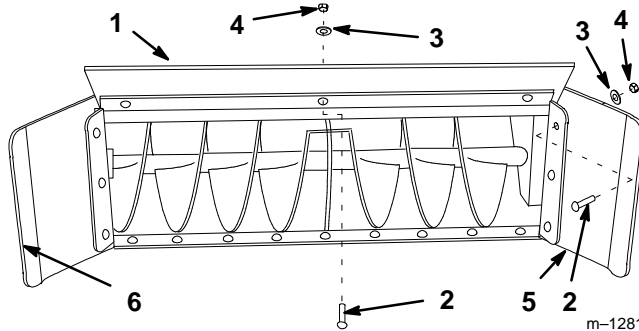

Figure 2
1. Position the top plate outside the top flange of the housing. Secure with (3) 3/8 x 1" (25 mm) carriage bolts (heads on the inside) (3) 3/8" washers (10 mm) and (3) 3/8" locknuts (Fig. 2).
2. Position the side plates outside the housing side flanges, with the cutting edges parallel to the side of the housing, and secure them with (6) 3/8 x 1" (25 mm) carriage bolts (heads on the inside), (6) 3/8" (10 mm) washers and (6) 3/8" locknuts (Fig. 2).